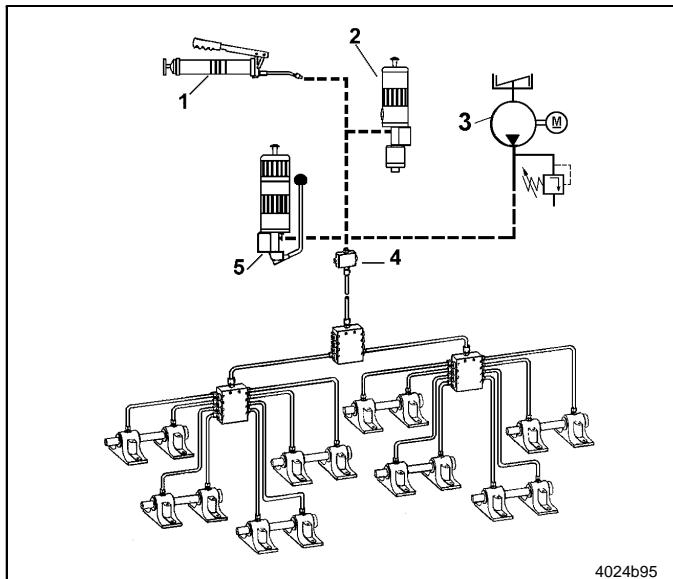

Fig. 50 Possible pump connections
- In combination with manual, pneumatic or electrical pumps, progressive metering devices provide simple centralized lubrication systems at a favorable price (see Fig. 50). When used with integrated control units, these centralized lubrication systems can be operated also automatically.